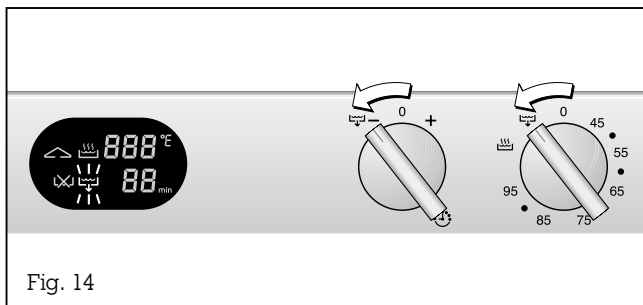

Fig. 14
- Turn the “Short time” control knob to the left to the  position and hold the knob in this position (Fig. 14).